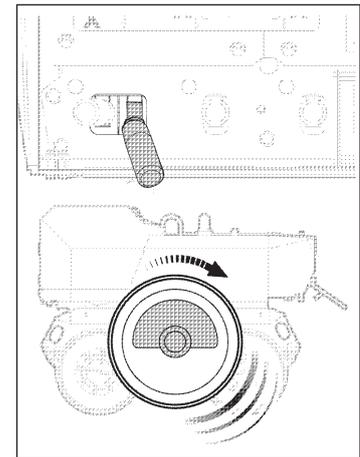

Fig. SE8 Vibrate backwards
- 3) Vibrate backwards (Fig. SE8)